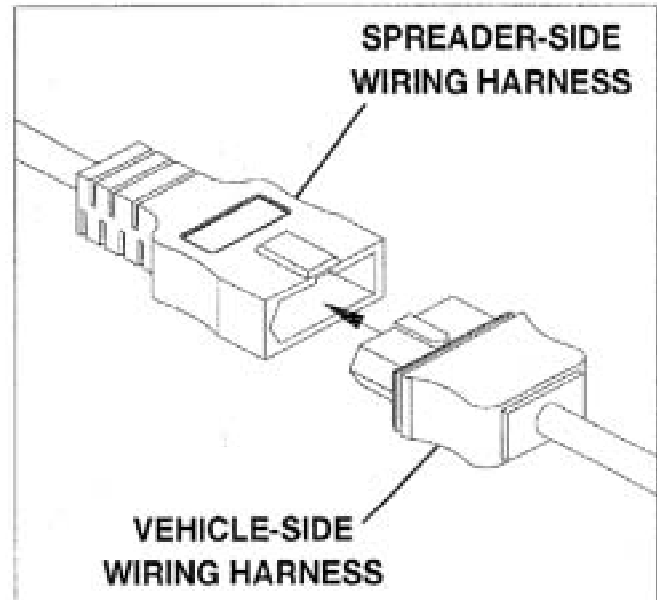

Figure 13
5. Connect spreader-side wiring harness to vehicle-side wiring harness. See Figure 13.